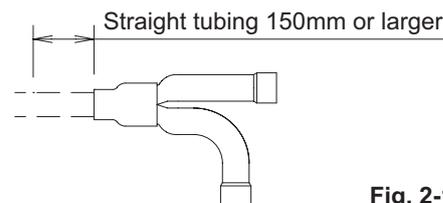

Fig. 2-1
- For branching tubes, install 150mm or larger (including reducer) straight tubing up to the point where the tube branches (or after the point where the tubes join together). (Fig. 2-1)